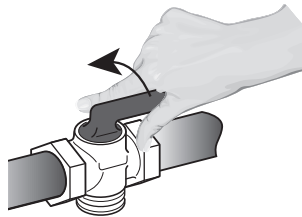

Figure 8
**2** Shut off the gas supply to the appliance by closing the manual shut-off valve (see Figure 8). Disconnect electrical power to the appliance before servicing. Do not remove regulator or allow it to turn during servicing.